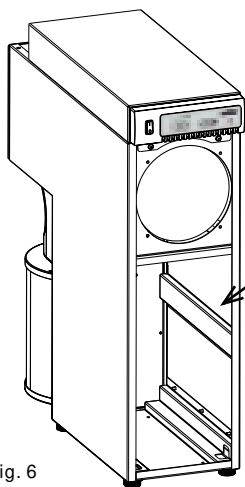

Fig. 6
- Before connecting the unit to the mains power supply, check if the voltage given on the number plate (Fig.6) corresponds with the local voltage.